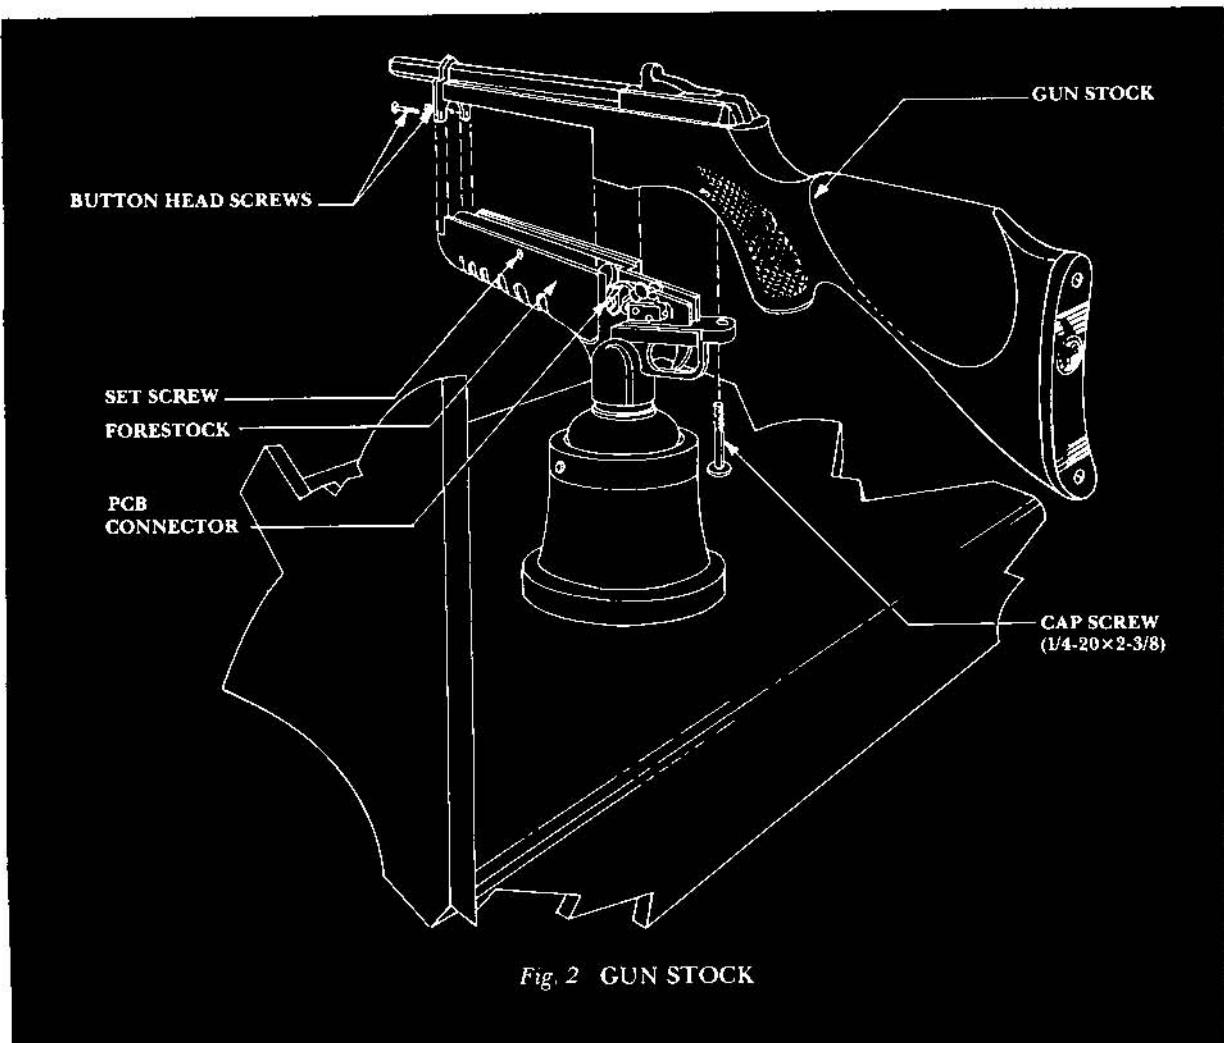

Fig. 2 GUN STOCK
4. Gently place gun stock onto forestock mount with the (2) 10-24×1 button head screws, and (1) 1/4-20×2 3/8 cap screws and secure gun stock to forestock (See Fig. 2).